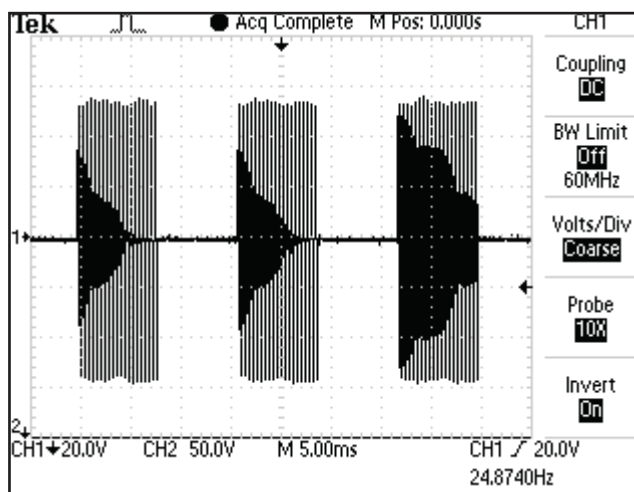

FIGURE 4.8
G. Russian- Figure 4.8 (Vectra Genisys, Intellect Legend XT and Intellect Vet)
- Output Intensity.....0-100 mA (CC)